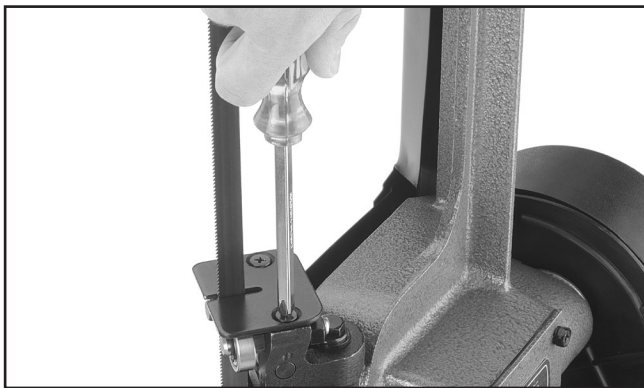

Figure 15. Removing blade guide cover.
1. Remove the two screws and blade guide cover as shown in **Figure 15**.